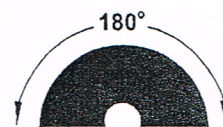

Fig.4
- The detection range can reach the max. coverage of 180 degrees. (See fig.4)